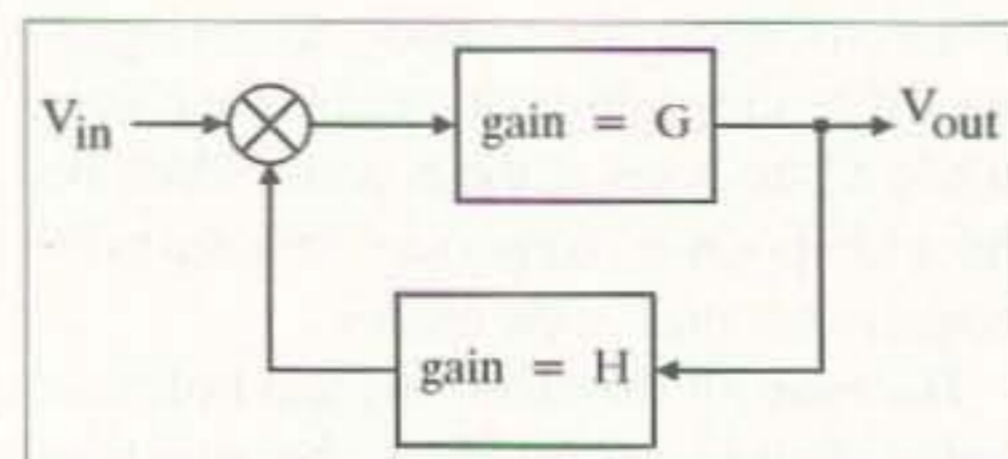

Fig. 4. A servo loop.
Fig. 4 shows a circuit sometimes called a *feedback loop* or *servo loop*. An input signal (V_{in}) is applied to a combiner circuit (the circle with an X inside), and then to an amplifier which has a gain G. The output from the amplifier is V_{out} .
(A) Negative feedback. As we can see in Fig. 4, the actual input into the amplifier is a combination of the input voltage (V_{in}), and the feedback voltage. If these two signals are out of phase, then the actual input would be less than V_{in} , and, therefore, the output voltage from the amplifier would be less than if there was no feedback. In other words, the gain of the servo circuit is now smaller than the gain of the amplifier all by itself.